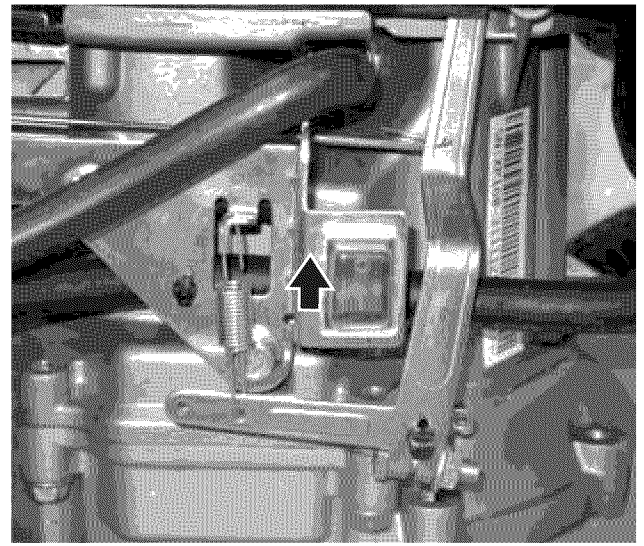

Figure 22 – Engine Stop Switch OFF Position
2. Move the engine stop switch up to the **OFF (O)** position (see Figure 22).